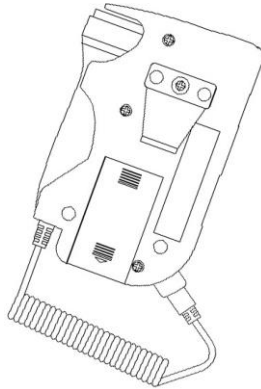

Figure 4-5
- 1) The rear panel is upturned (Figure 4-5);